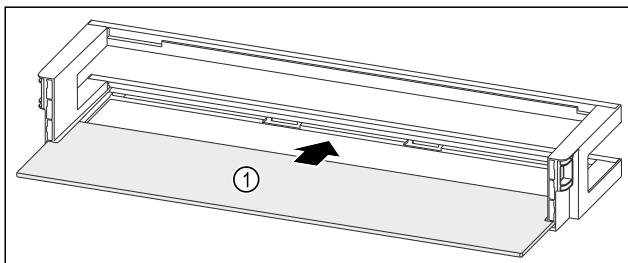

Fig. 94 Door rack with shelf
- Push the shelf Fig. 94 (1) into the side recesses.